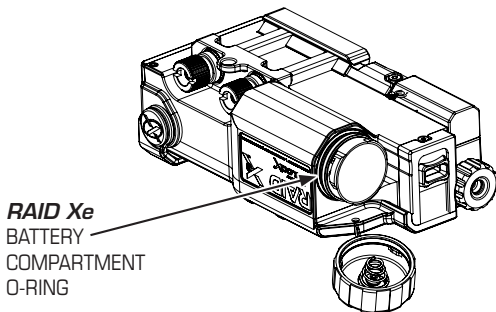

Figure 4.3-1 Inspecting and Replacing the O-Ring
Step 1.) Inspect the O-ring (see Figure 4.3-1).